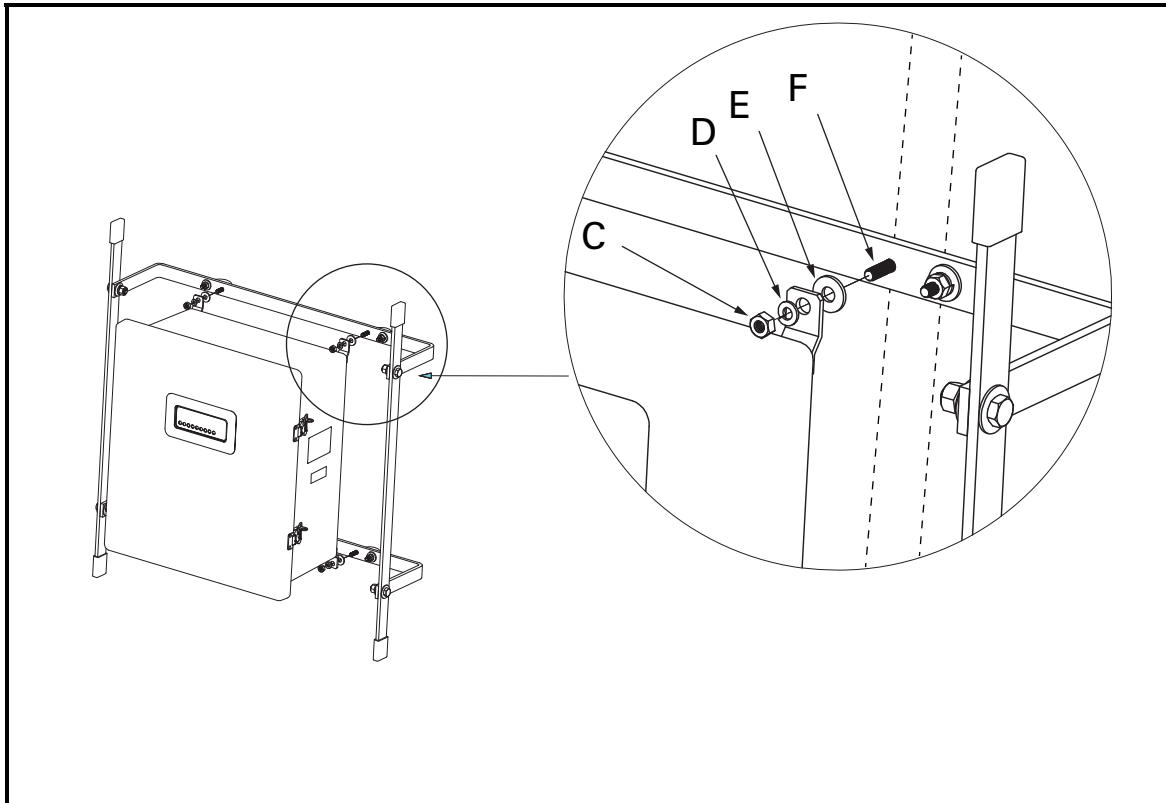

FIGURE 7. SB6100 Mounting.
- The SB6100 mounting feet align with the inner holes on the AC6000-MNT cable holder bars (B).
- Place a flat washer (E) over the inner part of the U-bolt (F) or customer-supplied hardware.
- Align and attach the SB6100 to the four inner bolts and secure them in place using a split lock washer (D) and hex nut (C) on top of the mounting feet as shown in Fig. 7. Secure the hex nuts finger tight until the SB6100 is completely installed.